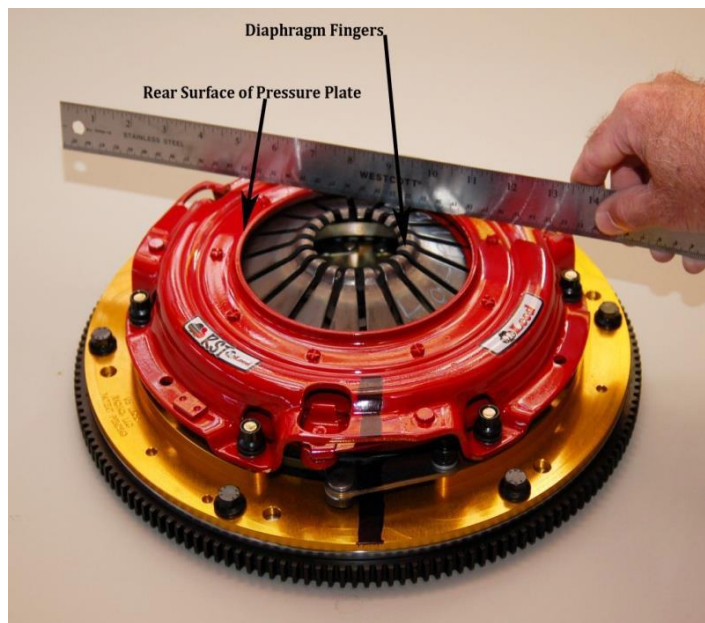

Figure 7
- 12) Check diaphragm finger height at this time by placing a straight edge onto the pressure plate across the finger opening. All of the fingers should be at or below the rear surface of the pressure plate. Figure 7.